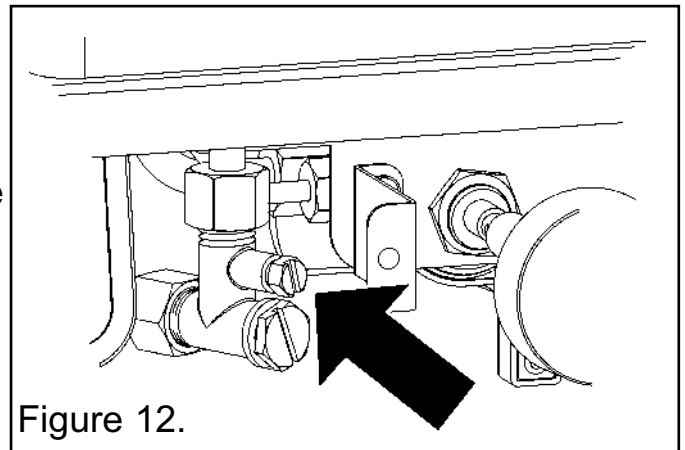

Figure 12.
1. Ensure that the stove is turned OFF before removing the pressure test point sealing screw. Check the inlet pressure by fitting a pressure gauge at the test point. The test point is on the inlet 'T' connector (See figure 12). Check the pressure with the appliance alight and set at maximum output.